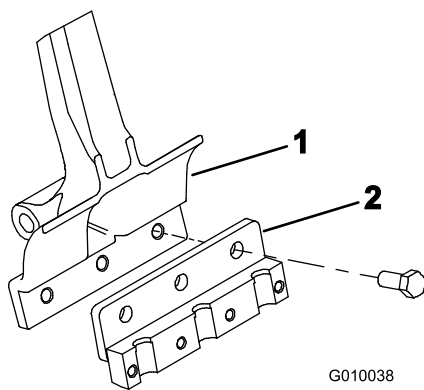

Figure 22
2. Mount a tine holder to each tine arm with 3 bolts (1/2 x 1-1/4 inches) (Figure 22). Torque the bolts to 75 ft-lb (101.6 N-m).